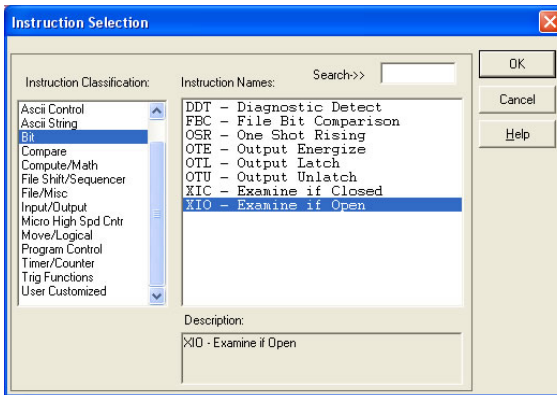

Figure 114: XIO Instruction Selection
- b) Select the "XIO" instruction from the "Bit" classification, then click OK. Refer to Figure 114.